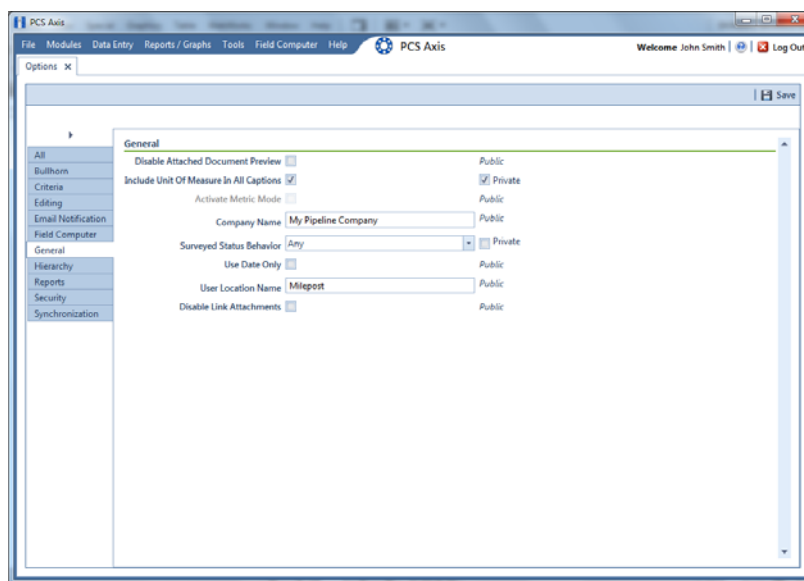

Figure 2-11. General Options
- 2 Click the **General** tab to open the *General* options page (Figure 2-11).